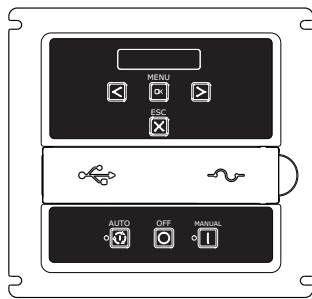

Figure 3A
- Remove the screws and the control box front to access the control panel. The generator will have either of two panels (Figure 3A or 3B).